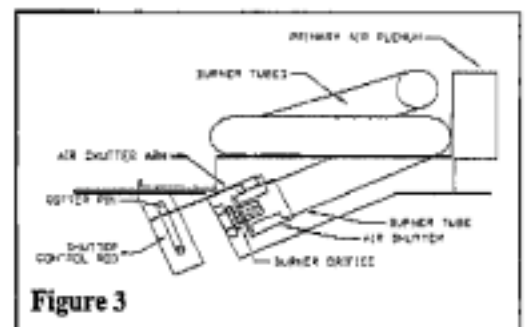

Figure 3
8) Locate and remove the air shutter assembly, located in the firebox, as shown in Figure 3 Note its position for reassembly.
10) Replace the air shutters by gently sliding the air shutter arm through the slot in the burner pan and reposition as previously noted and shown in Figure 3.